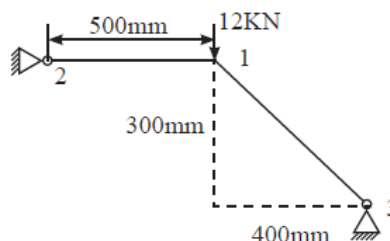

fig 4
**6** Determine the unknown displacements and stresses for the structure shown in fig 4. Take  $E = 0.7 \times 10^5 \text{ MPa}$ ,  $A = 200 \text{ mm}^2$ .